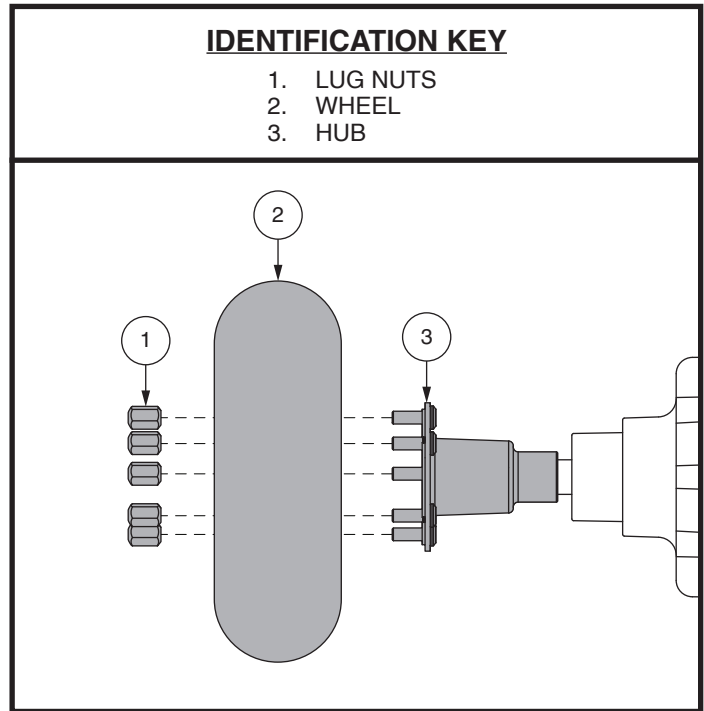

Figure 19. Wheel Replacement
4. Remove the lug nuts from the hub. **See figure 19.**